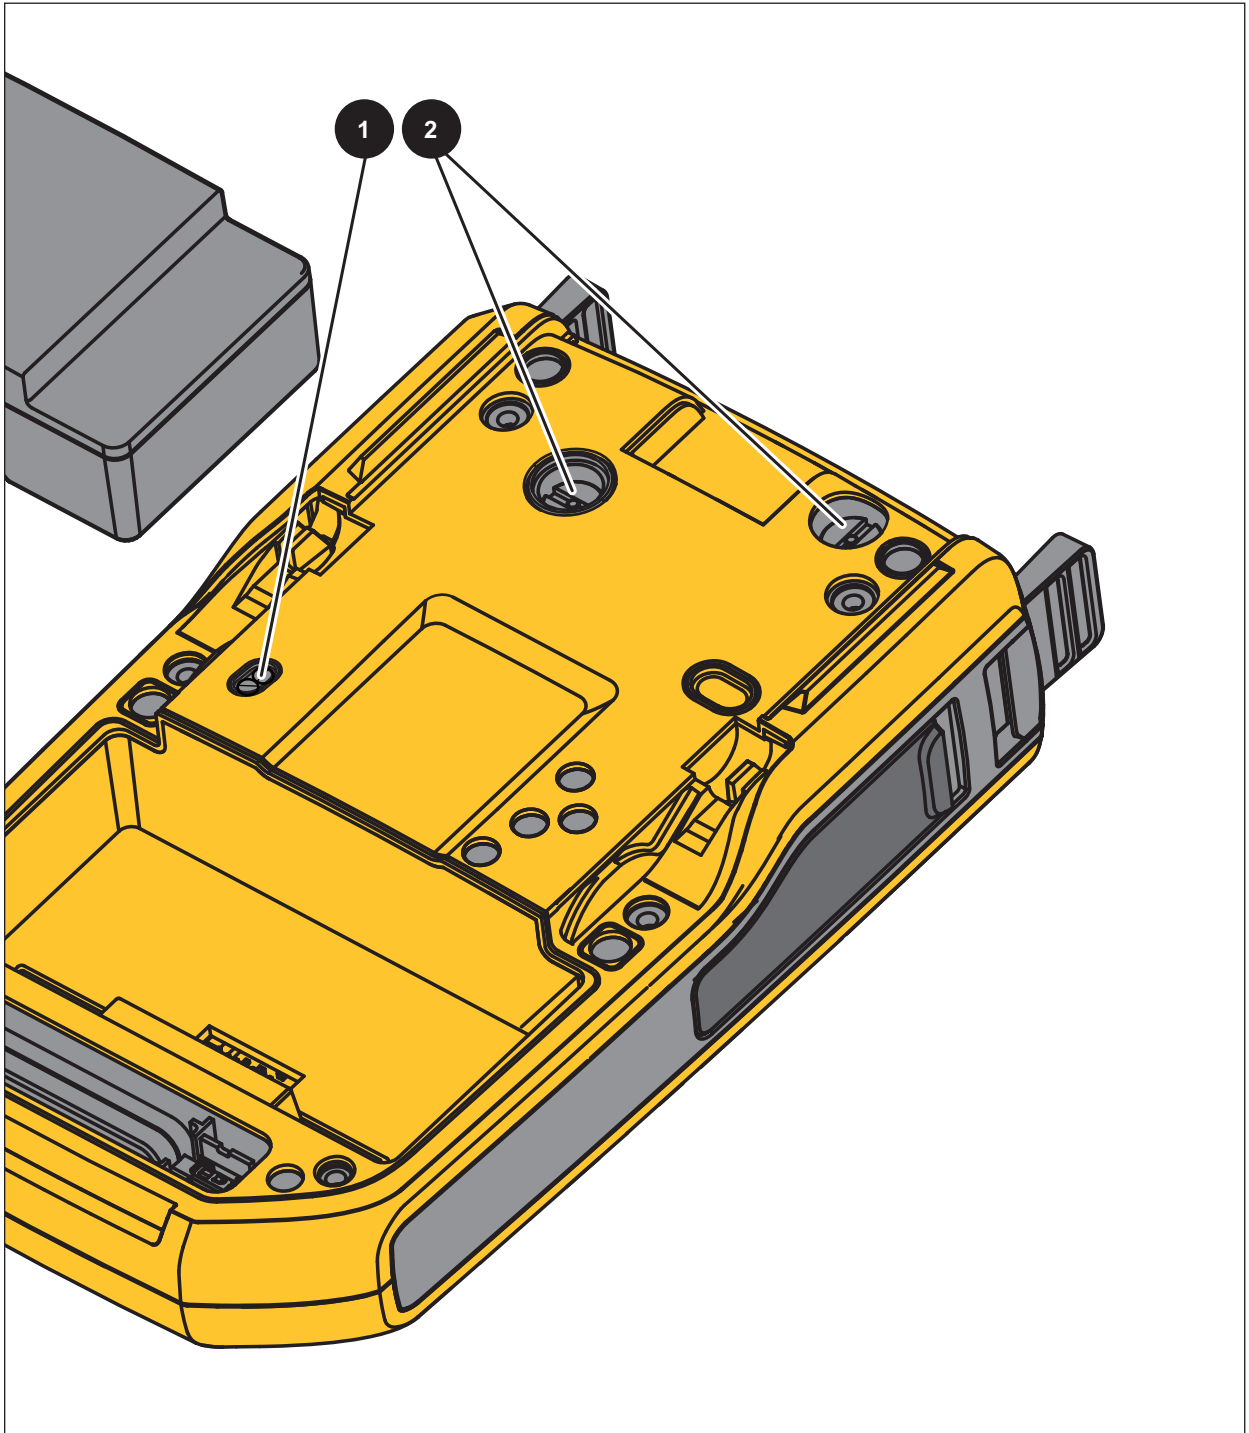

Figure 7. Pump Valve
1. Remove the battery door (see *Battery Replacement*) and locate the pump valve caps, see Figure 7 (1).
1. Remove the battery door (see *Battery Replacement*) and locate the two filter caps, see Figure 7 (2).